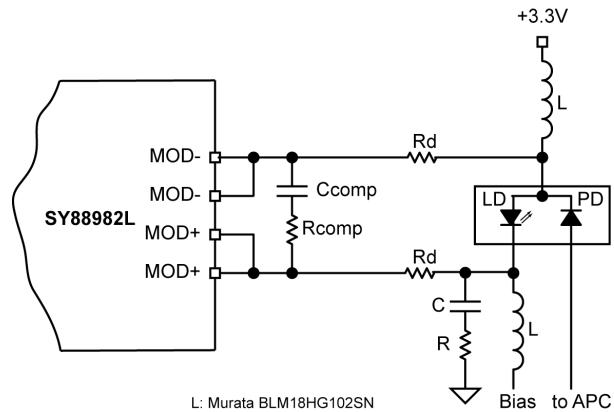

Figure 3. Laser DC-Coupled
The typical applications diagram on the first page shows how to connect the driver to the laser, single ended. To improve transition time and laser response, the laser can be driven differentially as shown in Figures 3 and 4. Driving the laser differentially will also minimize the cross talk with the rest of the circuitry on the board, especially the receiver.
Ldi/dt is the voltage drop due to the laser parasitic inductance during I_{mod} transitions. Assuming $L = 1nH$, $t_r = t_f = 80ps$ (measured between 20% and 80% of I_{mod}), and $I_{mod} = 70mA$ (42mA from 20% to 80%), then Ldi/dt will be equal to 525mV. This number can be minimized by making the laser leads as short as possible and using an RC compensation network between the cathode of the laser and ground or across the laser driver outputs as shown in Figure 3.
On the other hand, the smaller is the value of R_d , the higher is the overshoot/undershoot on the optical signal from the laser. In the circuit shown in Figure 3, the RC compensation network across the driver outputs (MOD+ and MOD-) allows the user $R_d = 10\Omega$. The optical eye diagrams at data rates of 155Mbps/622Mbps/1.25Gbps/2.5Gbps, shown in "Functional Characteristics" section, are all obtained with the same circuit using $R_d = 10\Omega$, $R_{Comp} = 100\Omega$, and $C_{Comp} = 3pF$. The compensation network may change from one board to another and from one type of laser to another. An additional compensation network (RC) can be added at the laser cathode for further compensation and eye smoothing.